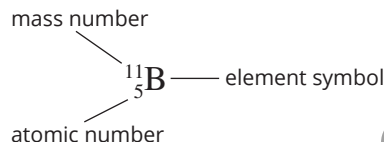

FIGURE 1.5 Representation of a boron atom
Each element is made up of one type of atom. The type of atom is determined by the number of protons in the nucleus. The **atomic number** (Z) of an element indicates the number of protons in the nucleus. The **mass number** (A) indicates the total number of nucleons (protons plus neutrons) (Figure 1.5).